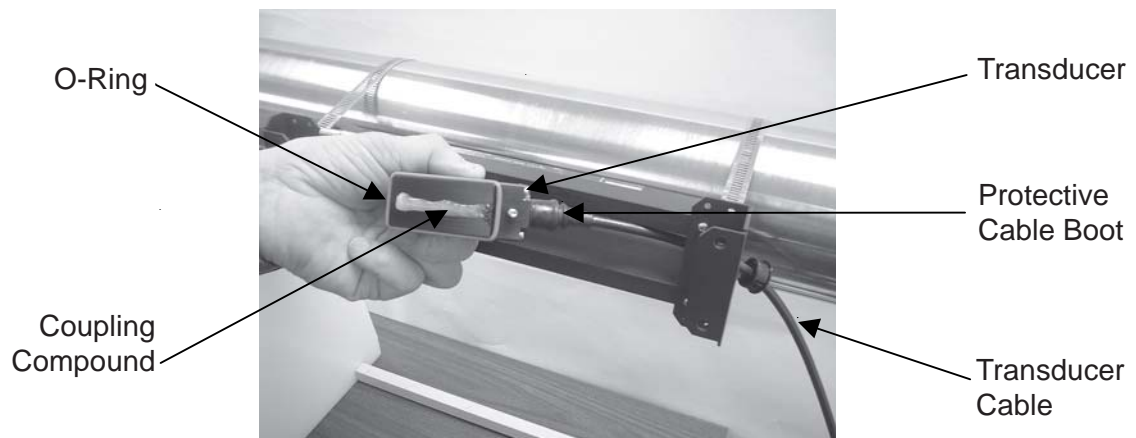

Figure 3
- For each transducer, place the supplied O-Ring gasket around the recess in the transducer's footprint (Figure 3).
- Attach the cable to the transducer. Fill the protective boot with coupling compound and push in place to cover connection (Figure 3).
- Apply a 1/4" bead of couplant down the center of the emitting surface of the transducer (Figure 3).